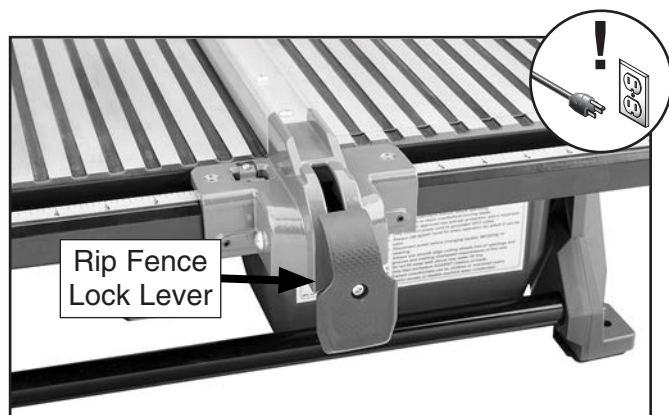

Figure 24. Rip fence lock lever location.
3. Unlock rip fence by lifting rip fence lock lever, adjust to desired cut width on scale, and push lock lever down to secure (see **Figure 24**).